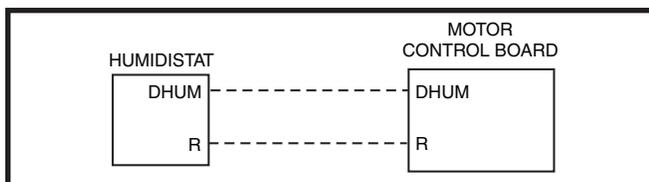

Figure 6. DHUM Wiring Configuration
The motor control board has a **DHUM** or **D** connection that allows the system to increase the amount of humidity that is removed from the circulating air. See Figure 6 \(page 8\) This is accomplished by reducing the CFM and allowing the cooling coil to become colder. This will only occur when there is a call for cooling. There are many ways that this can be electrically wired.
1. If the room thermostat incorporates a humidity sensor and **DHUM** output, connect the **DHUM** on the thermostat to the **D** terminal on the motor control board. See Figure 6.